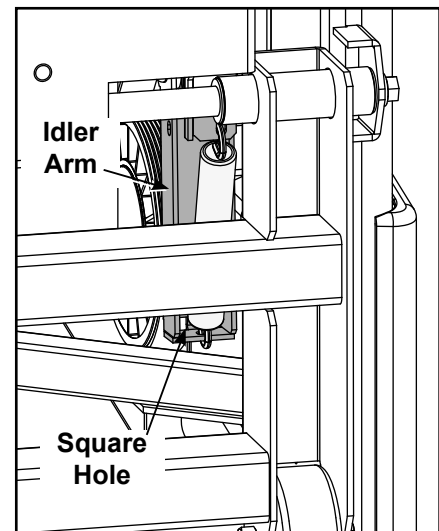

Figure 12
- A. Release drive belt tension by placing a Phillips screwdriver into the square hole located in the bottom of the idler pulley assembly. See Figure 12.
- B. Release drive belt tension by placing the Phillips screwdriver into the square hole located in the bottom of the idler pulley assembly. See Figure 12.